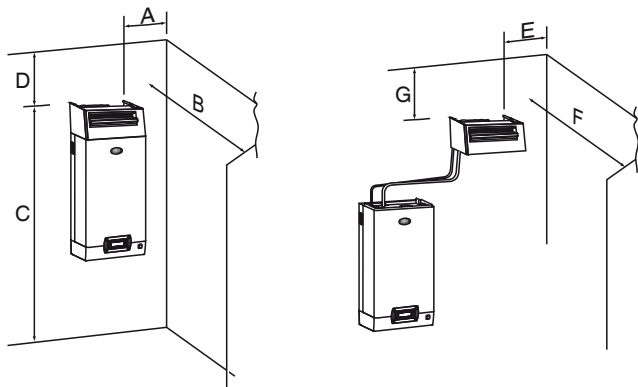

Fig. 3.c
2. the L-shaped supports (see element 1 Fig. 3. b) is supplied with steam distributors models from DP085* to DP205*. For shorter lengths the bracket can be supplied as optional (code 18C478A088).
Steam distributors for installation in rooms. These come with a fan to assist steam absorption. The VSDU0A* blowers can be used on humidifiers with flow-rates up to 18 kg/h (39.7 lb/h), i.e. models UR002...UR013. They can be connected to the top of the humidifier, or separately in a remote position using the fastening support VSDBAS0001 (see Fig. 3.c). These distributors have a power supply inside the electrical panel (24 Vac, Terminals X1, X2).